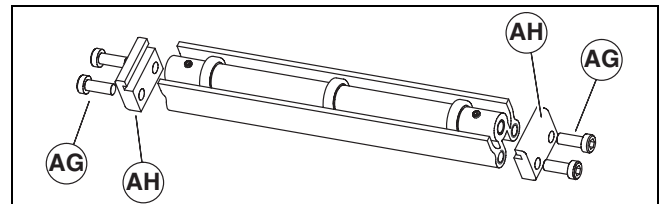

Figure 15
- Locate return rollers. Exploded view shown in Figure 15.
- Remove screws (Figure 15, item AG) and clips (AH) from roller assembly.